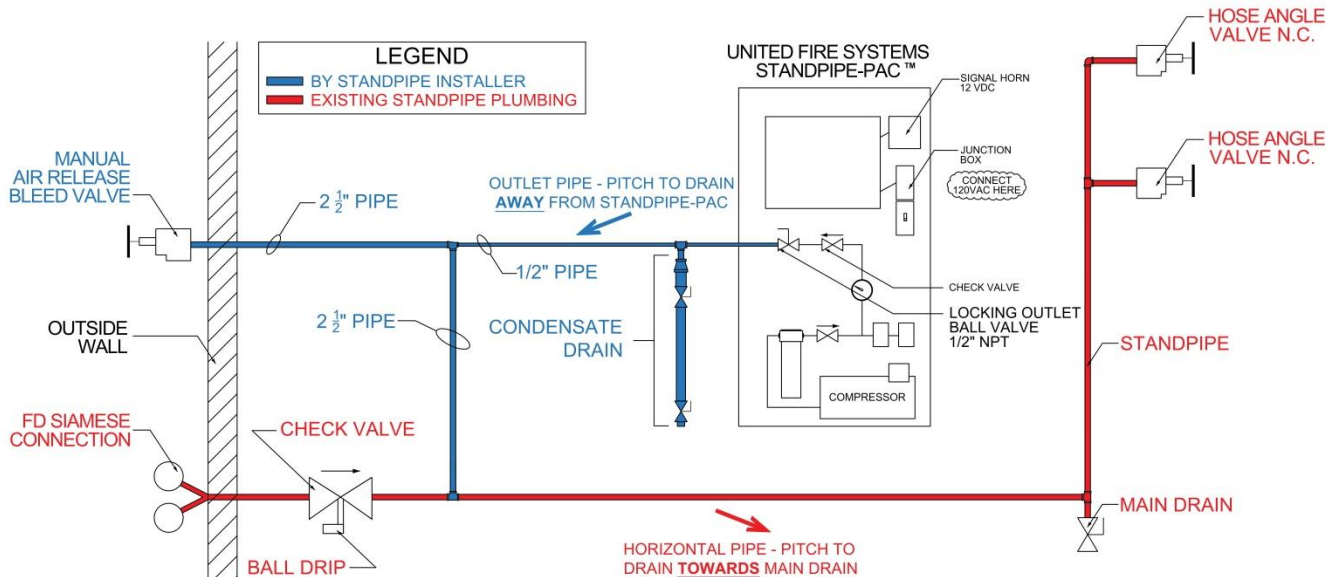

FIGURE 3
5. See Figure 3. Connect 1/2 inch pipe to the remaining run of the tee attached to the device and the inlet to the dry standpipe. Pitch the pipe to drain away from the device.